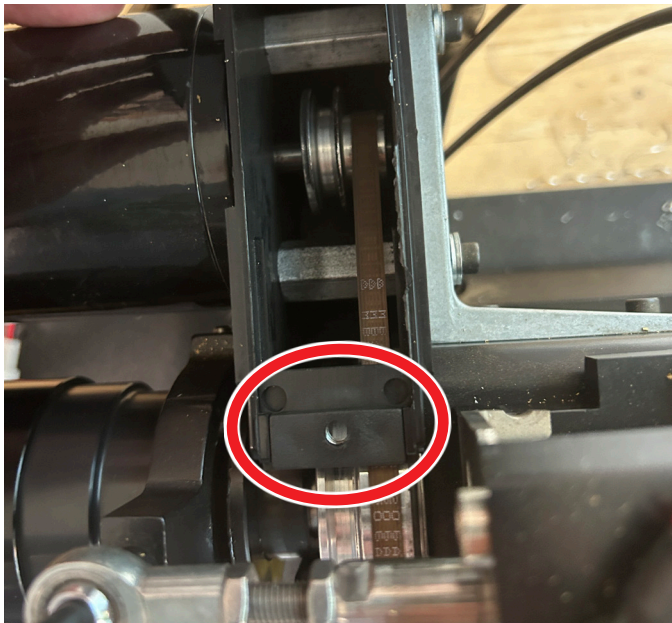

FIGURE 9—Location of the lock-nut tab.
H. Place the lock-nut tab back in the belt cover slots (see Figure 9).